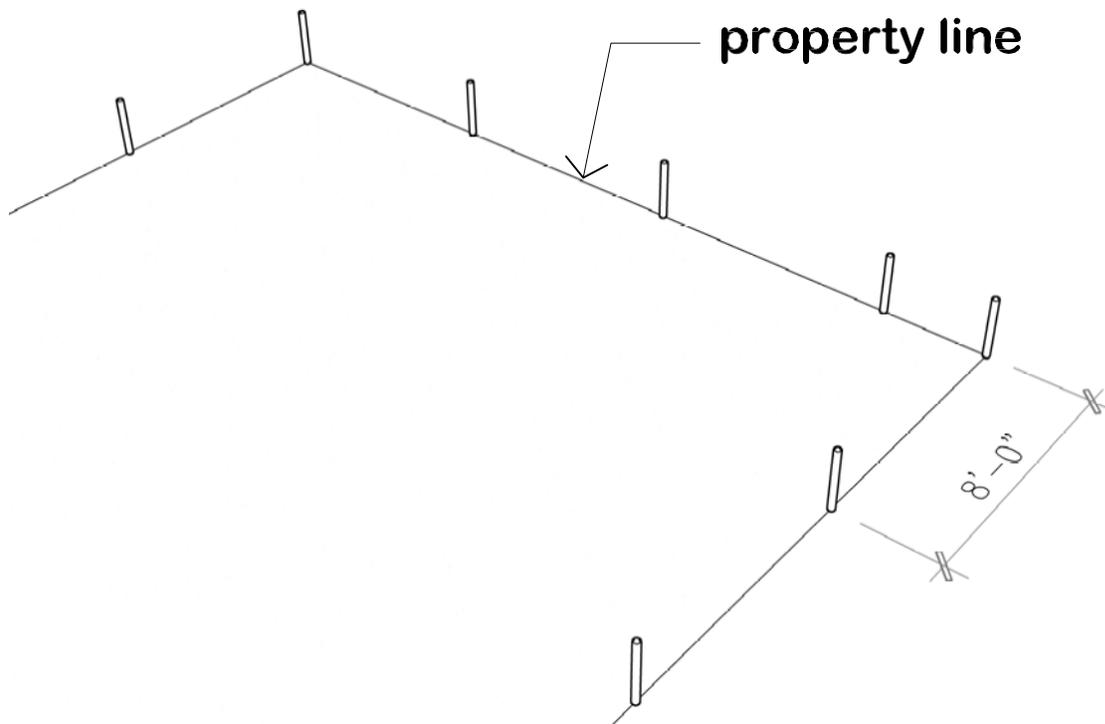

figure 1
3. Plot Layout: Starting from corner of lot, mark with stakes at post centerline locations for placement of new **greenewall** Posts (figure 1). NOTE: Lot dimensions will probably not be exactly devisable by even no. of panels. In this case, one Panel width will need to be cut shorter, as discussed later (see #13). While marking Post locations, take into consideration where this shortened Panel may be located. Give consideration to visual balance (i.e.: non-focal points, hidden behind bushes/buildings, on slopes etc.)